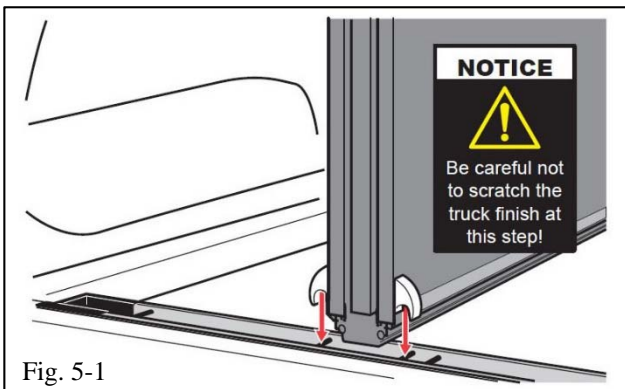

Fig. 5-1
- (a) Unlock the latches and then lift the folded tonneau onto the side rails. (Fig. 5-1, driver side shown).